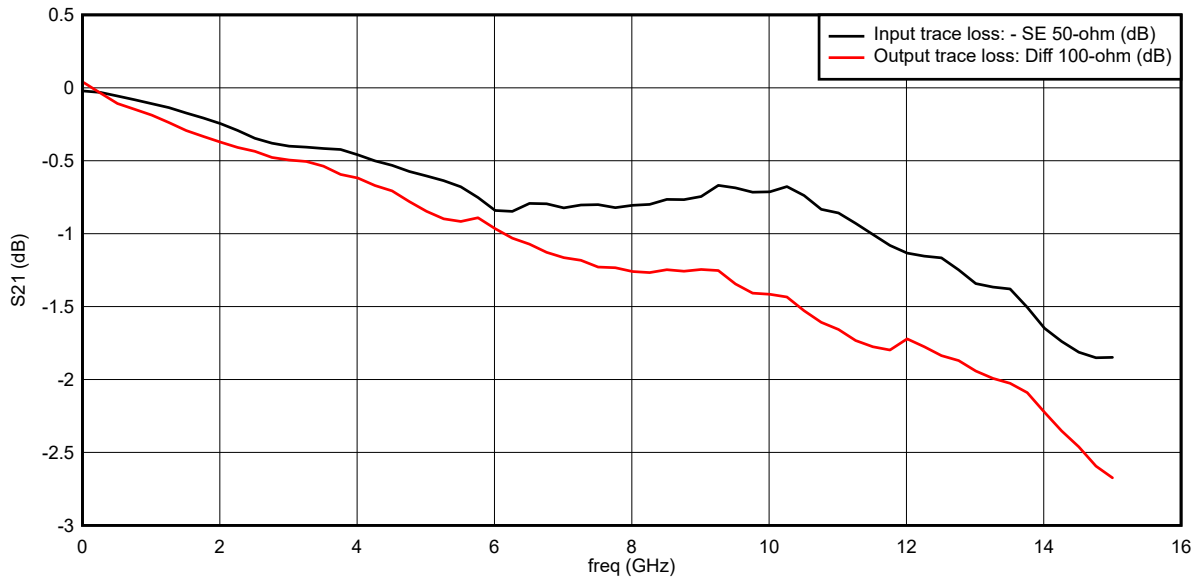

Figure 3-2. PCB Trace Loss vs Frequency
4. It is important to account for board trace losses at the input and output side of the device during gain measurements. Figure 3-2 shows the typical input and output trace losses measured on the EVM.